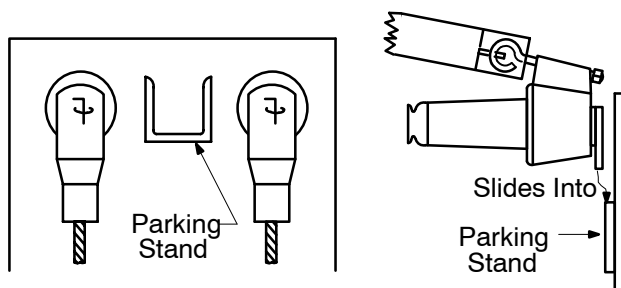

FIGURE 3
3. Attach the feed-thru bushing eye and crossbar firmly to shotgun tool. Slide the feed-thru bushing onto parking stand. Tighten down eye by rotating shotgun tool clockwise until snug. **DO NOT OVERTIGHTEN.** See Figure 3. **NOTE: #14 ground wire not shown.**